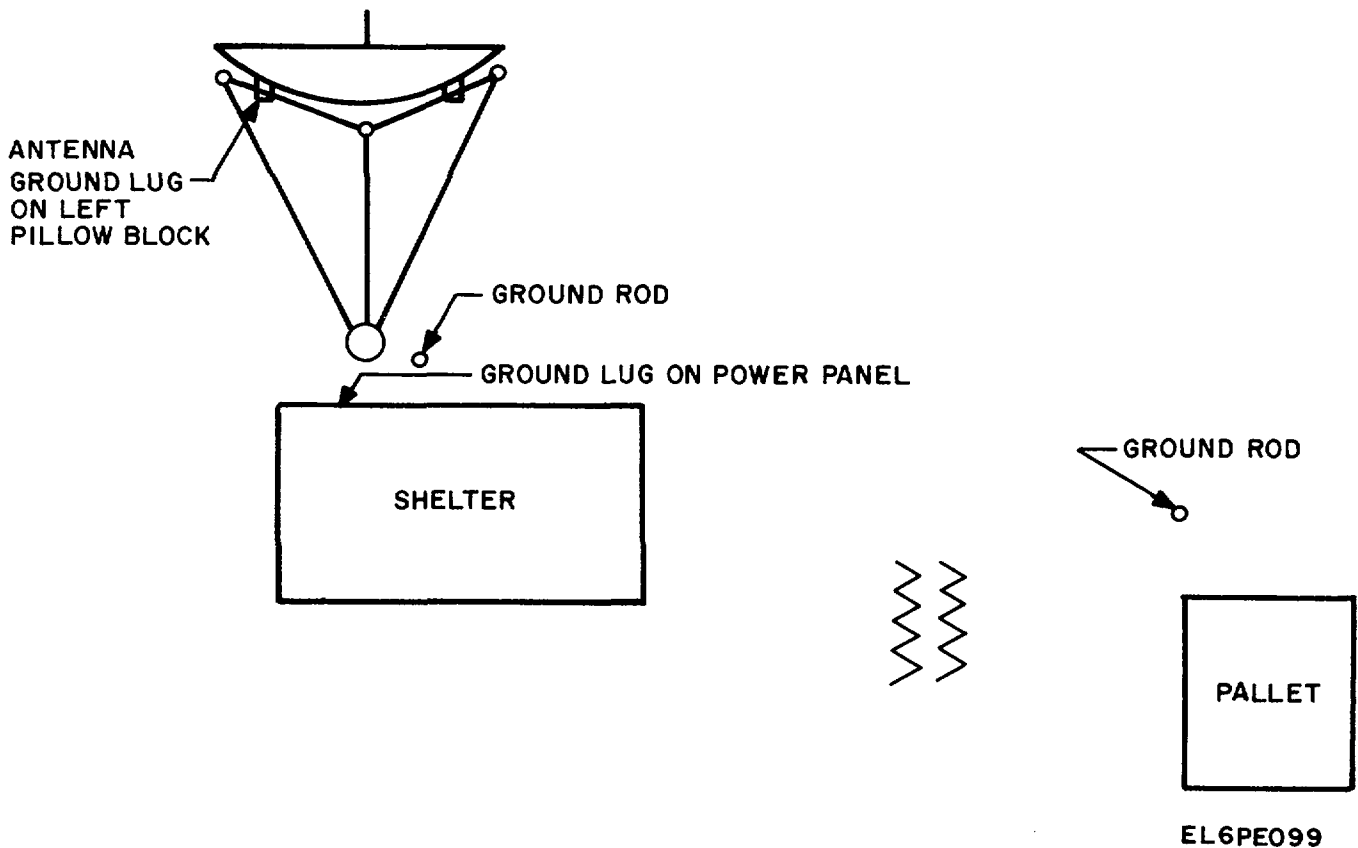

Figure 2-11. Ground Rod Locations.
2-17. Installing Ground and Power Cables (fig. 2.11)
(2) Drive two ground rods at the locations as shown in figure 2-11. Using a ground clamp, securely fasten the stripped ends of the shelter ground cable (W7) and antenna ground cable (W9) to the shelter ground rod.
(3) At the shelter power entry panel connect the terminal lug end of the shelter ground cable (W7) to the GROUND lug. Tighten the wing nut securely.
(4) At the antenna connect the terminal lug end of the antenna ground cable (W9) to the wing-nut ground lug on the left pillow block.
(5) Using a ground clamp, securely fasten the stripped end of the power ground cable (W8) to the pallet ground rod.
(6) At the power pallet, connect the terminal lug end of the ground cable (W8) to the ground lug of the power switch box. Tighten the wing nut securely.
(7) Connect the primary power cable between the shelter and power pallet. The distance between the
(4) Drive two ground rods; one near the shelter as shown in figure 2-11 and the other near the base power drop. Using a ground clamp, securely fasten the stripped ends of the shelter ground cable (W7) and antenna ground cable (W9) to the shelter ground rod.
(5) At the shelter power entry panel connect the terminal lug end of the shelter ground cable (W7) to the GROUND lug. Tighten the wing nut securely.
(6) At the antenna connect the terminal lug end of the antennal ground cable (W9) to the wing-nut ground lug on the left pillow block.
(7) Using a ground clamp, securely fasten the stripped end of the power ground cable (W8) to the power drop ground rod.
(8) Connect the two W5 power cables at the shelter power entrance panel Main Power 1 and Main Power 2.
(9) Connect the two power adaptor cables, W6, to the free ends of the W5 cables.